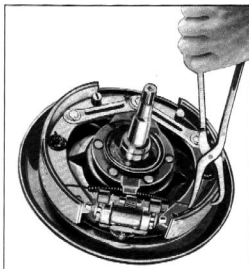

Fig. 15—Removing Brake Shoe Retracting Spring
3. Remove brake shoe retracting spring with special pliers, KMO 142, Fig. 15.